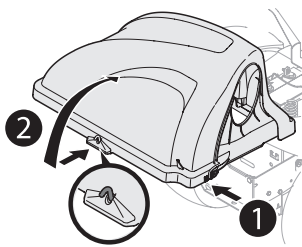

Figure 14
- Open bagger cover by pushing in on the rear, right-side tab with your right hand (1), and lifting the cover with your left hand in the center rear of the bagger cover (2) as shown in Figure 14.